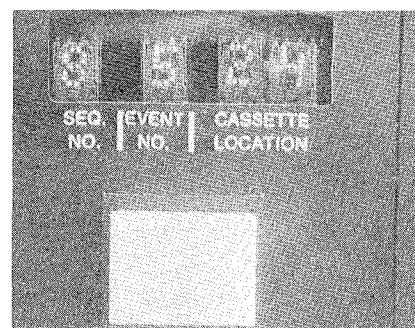

Fig. 6 The light-emitting diode array.
3. The light-emitting diode array. The diodes in the array operate from the typical +5 Volt supply used with DTL and TTL logic devices. Similar ones are available having a full 35-diode array (7 tall by 5 wide), with which they can portray not only numbers, but the letters of the alphabet and punctuation marks as well. The version shown in Figure 6 is a partial array and can form only the numerals, a minus sign and a decimal point, but inside the dual-in-line package